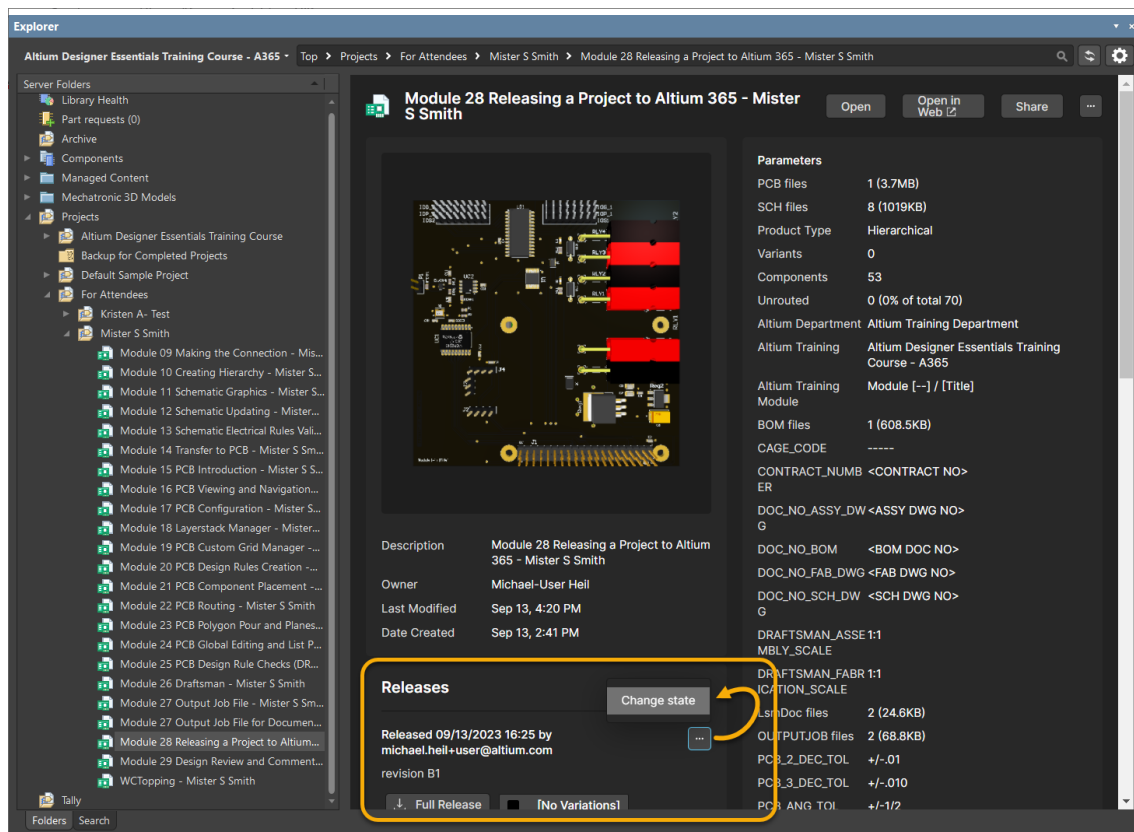

Figure 14. Example View for Explorer Panel with released Project
43. Select the Ellipsis button  and select **Change State**, Figure 14.